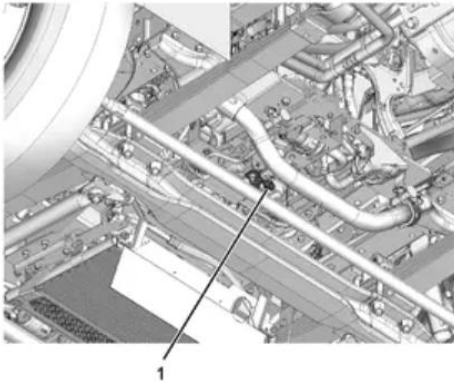

Figure 14
32. Locate the cabin heater coolant drain cap that is located above the front steering tie rod (See Figures 14 and 15.) and place the coolant drain pan directly underneath it to catch the coolant that will splash out when the drain cap is removed in the next step.